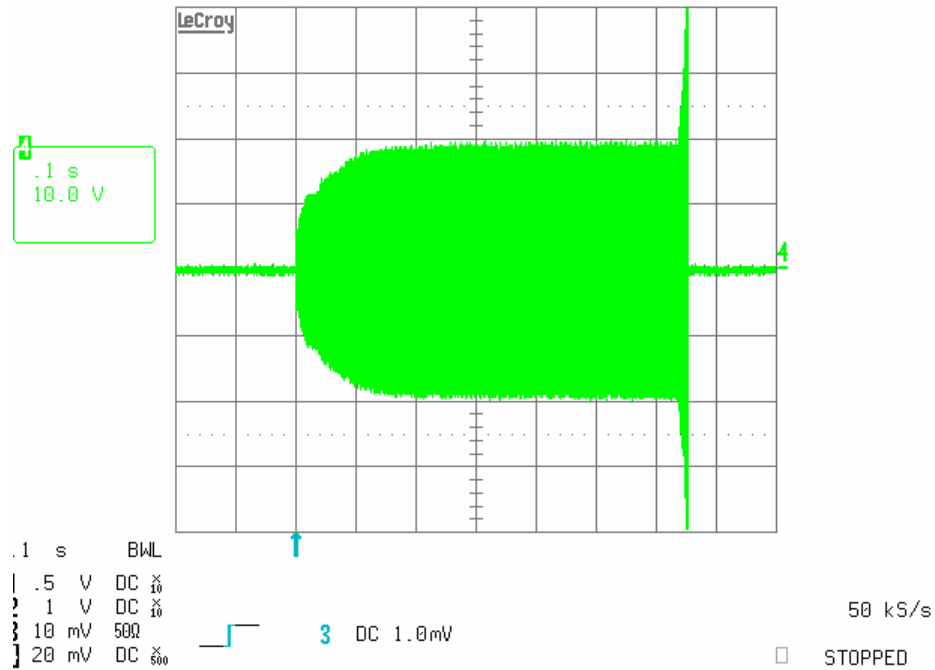

Figure 3: Lamp filament voltage during preheat and Ignition Ramp (Crossed lamps)
The ballast control section oscillator of the IRS2166D is similar to oscillators found in many popular PWM voltage regulator ICs and consists of a timing capacitor and resistor connected to ground. Resistors RT and RPH program a current that determines the ramp up time of capacitor CT. The downward ramping time of CT is the deadtime between the switching off of the LO (HO) and the switching on of the HO (LO) pins on the IRS2166D. The Preheat mode frequency of oscillation is determined from the parallel resistance of RT and RPH. It is selected such that the voltage appearing across the lamp is below the minimum lamp ignition voltage while supplying enough current to preheat the lamp filaments to the correct emission temperature within the Preheat mode period. The preheating of the lamp filaments is performed with a constant voltage during the Preheat mode. The waveform in Figure 2 shows the lamp filament current while Figure 3 shows lamp filament voltage during the normal Startup, Preheat, and Ignition Ramp modes of the ballast.